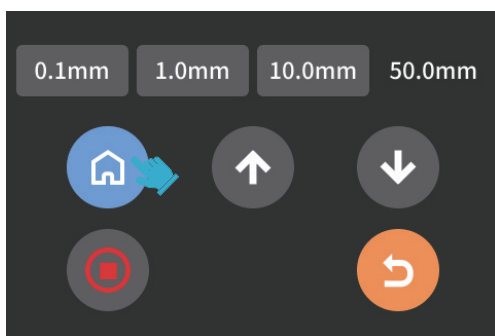
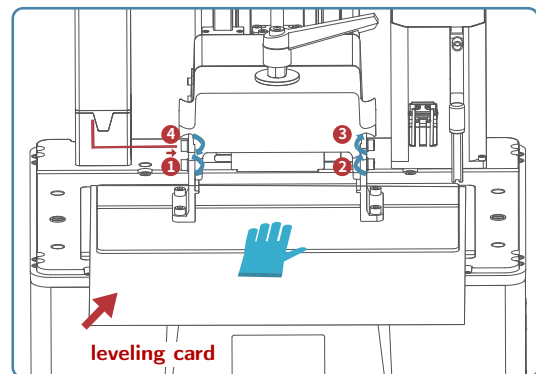

Figure 7
Figure 8
2. Place the leveling card between the build plate and the LCD screen, then tap **Move Z axis to zero** (the home button, see Figure 7). When the printer has stopped moving, press the top of the build plate down with one hand and tighten the four fixing screws **1 3 4 2** with the other (see Figure 8).